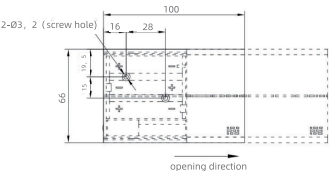

FIGURE 2
a.Slide to open the Safe Monitor cover to reveal two installation holes. The screw holes are located in the battery case shown in Figure 2.